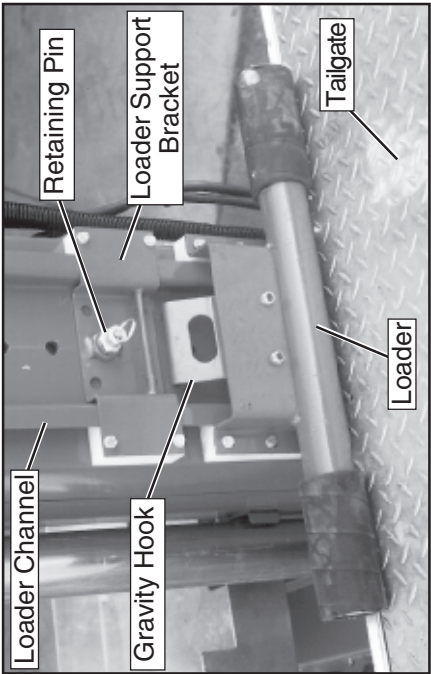

Figure 7: Loader in load position
1. Disconnect the plug from the battery box and remove the battery box from the rear of the machine (Figure 7).
2. Raise the loader support bracket and engage the retaining pin in the top hole of the loader channel (Figure 7).